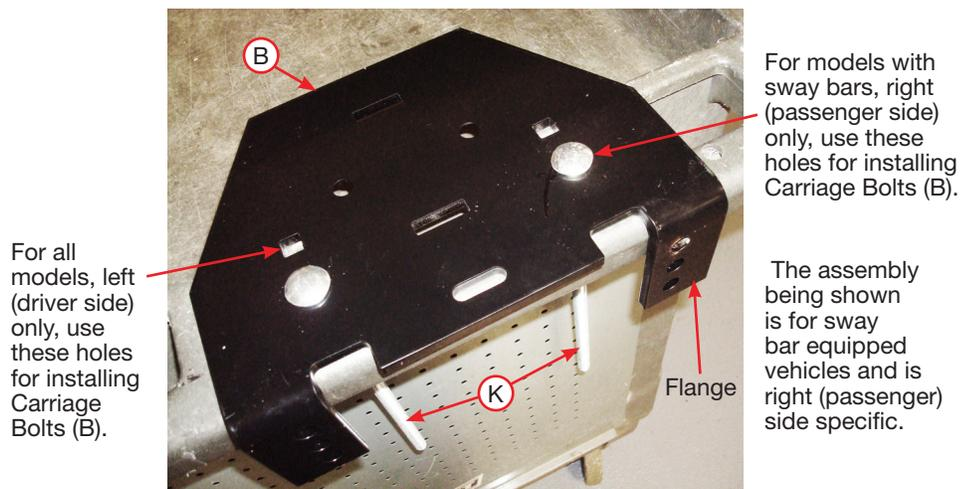

Fig. 11
- Insert two 3/8"-16 X 10" carriage bolts (K) through the square holes in the lower bracket main plate (B) as shown. **For models with sway bars:** use the holes farthest away from the flanges for the left (driver's) side, and the holes closest to the flanges for the right (passenger's) side installation (Fig. 11). **For all models without sway bar,** use the square holes farthest away from the flange for both sides of the installation.